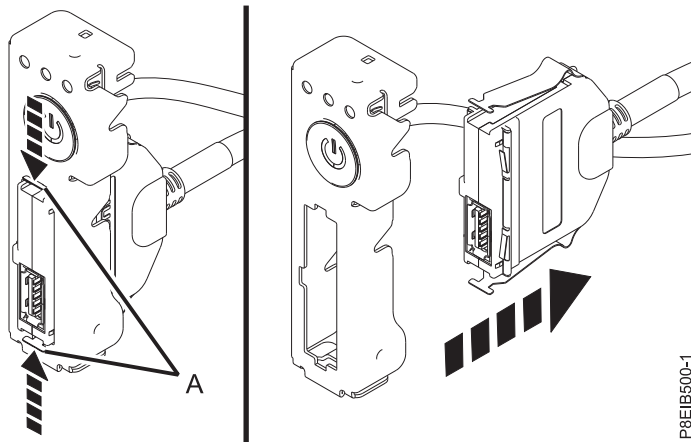

Figure 69. Removing front USB cable and connector from power switch
10. Pressing the latch releases (A) on the connector, disconnect the front USB cable and connector from the power switch. See Figure 69 on page 57.